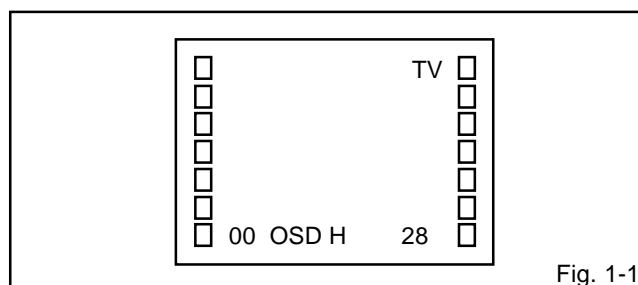

Fig. 1-1
1. In the condition of NO indication on the screen. Press the VOL. DOWN button on the set and the Channel button (**9**) on the remote control for more than 1 second to appear the adjustment mode on the screen as shown in **Fig. 1-1**.
3. Activate the adjustment mode display of **Fig. 1-1** and press the channel button (**01**) on the remote control to select "CUT OFF".
4. Activate the adjustment mode display of **Fig. 1-1** and press the channel button (**10**) on the remote control to select "R.BIAS".
3. Activate the adjustment mode display of **Fig. 1-1** and press the channel button (**22**) on the remote control to select "TINT".
6. Activate the adjustment mode display of **Fig. 1-1** and press the channel button (**19**) on the remote control to select "COL.CENT".